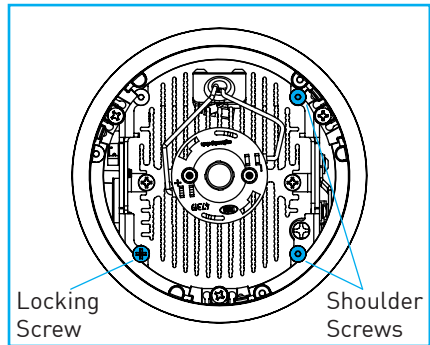

Fig.51
- Remove adjustment mechanism by loosening locking screw and removing two shoulder screws *"Fig.51"*.
- Reinstall adjustment mechanism by installing shoulder screws and tightening the locking screw *"Fig.51"*.